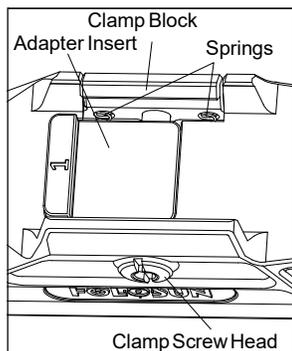

Fig 4
4) While pushing forward on the P.ID (toward the firearm muzzle), turn the clamp screw head clockwise completely until the P.ID is tightened securely and there is no movement. See Fig 4.